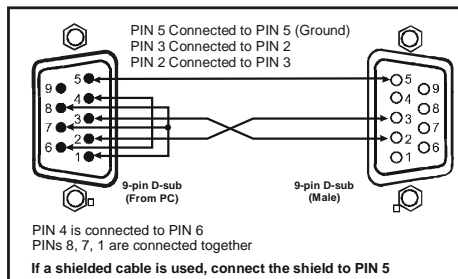

Figure 5: Connecting a PC without using a Null-modem Adapter
- Connect the RS-232 9-pin D-sub port on your PC to the RS-232 9-pin D-sub rear panel port on the **VM-28H / VM-216H**, as Figure 5 illustrates